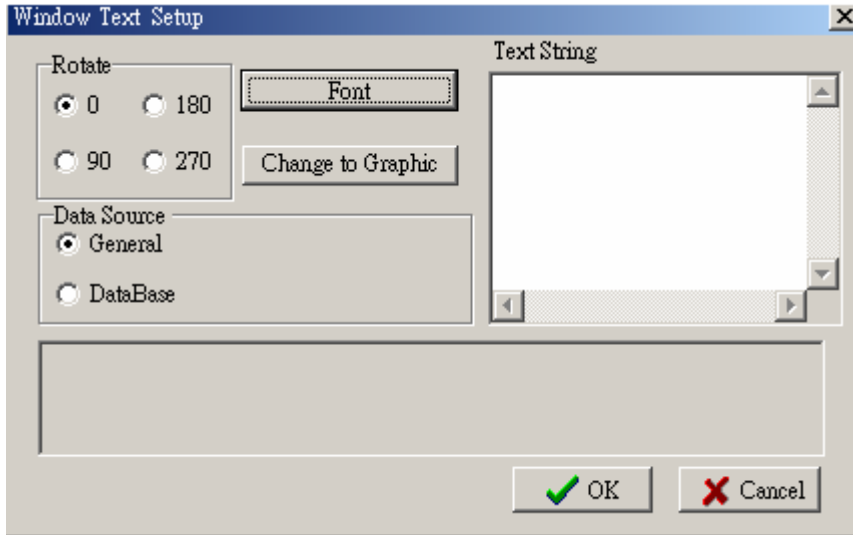

Fig.5.2
1. Click . (refer to the Fig.5.2)